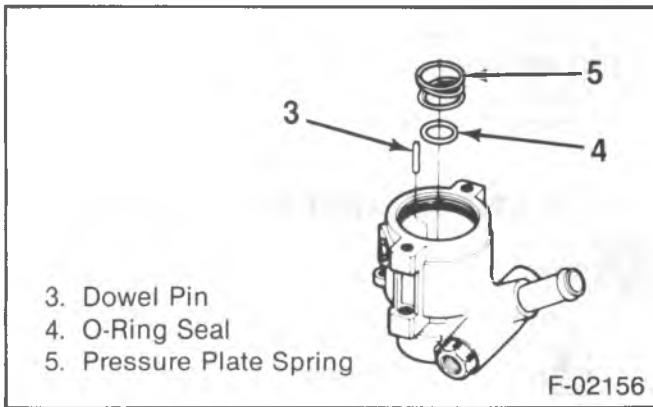

Figure 41—Installation of the Pin, Seal and Pressure Plate Spring
3. Dowel pin (3) (figure 41).
4. O-ring seal (4).
5. Pressure plate spring (5).